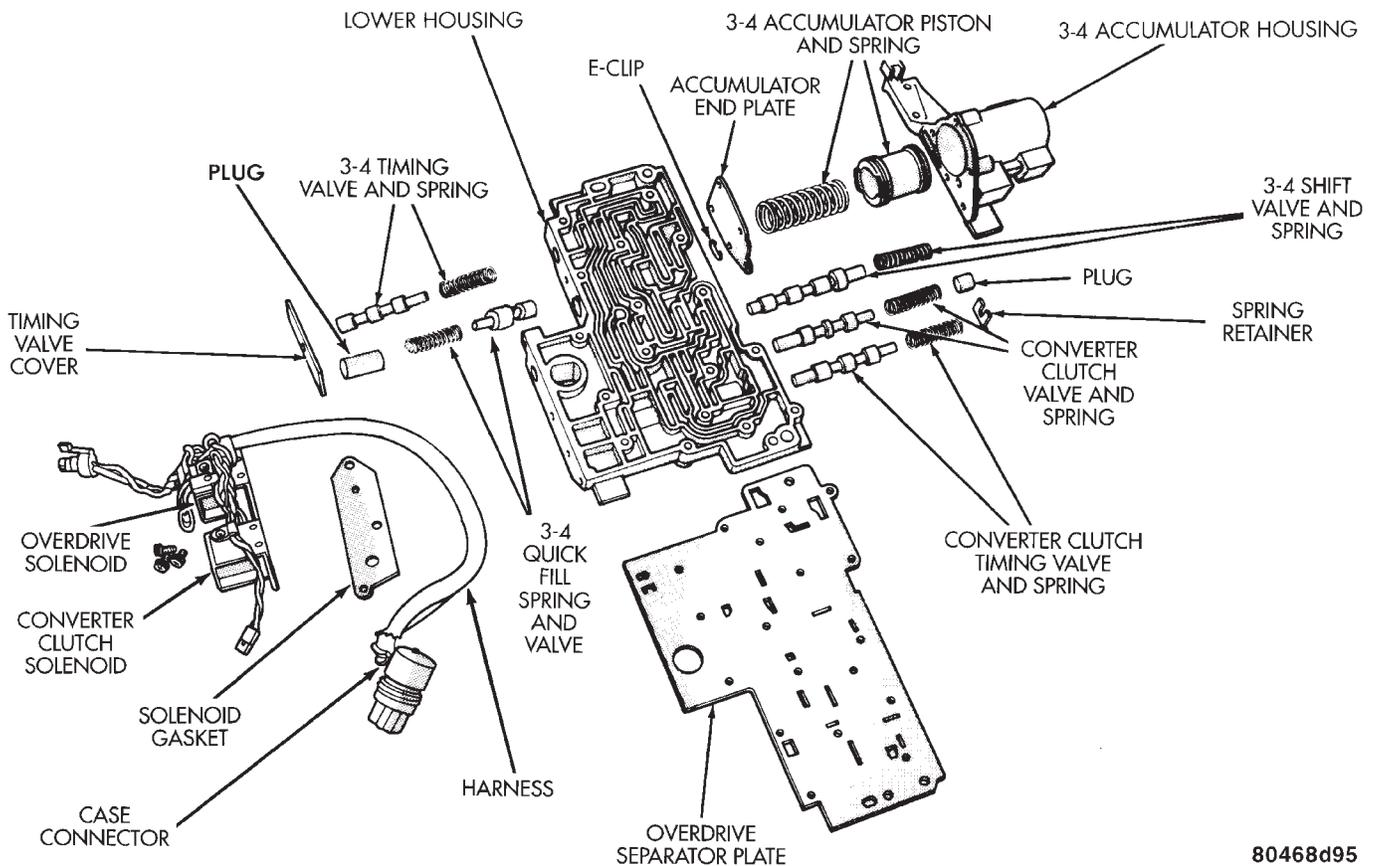

Fig. 93 Lower Housing Shift Valves And Springs
- (1) Remove timing valve cover.
- (2) Remove 3-4 timing valve and spring.
- (3) Remove 3-4 quick fill valve, spring and plug.
- (4) Remove 3-4 shift valve and spring.
- (5) Remove converter clutch valve, spring and plug (Fig. 93).
- (6) Remove converter clutch timing valve, retainer and valve spring.
- (1) Lubricate valves, springs, and the housing valve and plug bores with clean transmission fluid (Fig. 93).
- (2) Install 3-4 timing valve spring and valve in lower housing.
- (3) Install 3-4 quick fill valve in lower housing.
- (4) Install 3-4 quick fill valve spring and plug in housing.
- (5) Install timing valve end plate. Tighten end plate screws to 4 N·m (35 in. lbs.) torque.